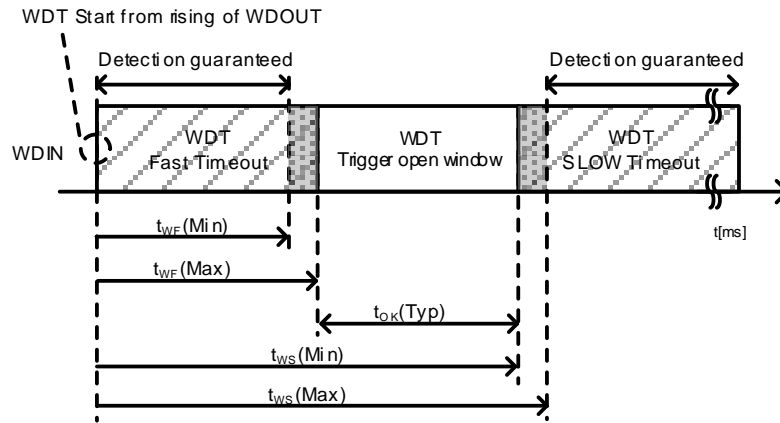
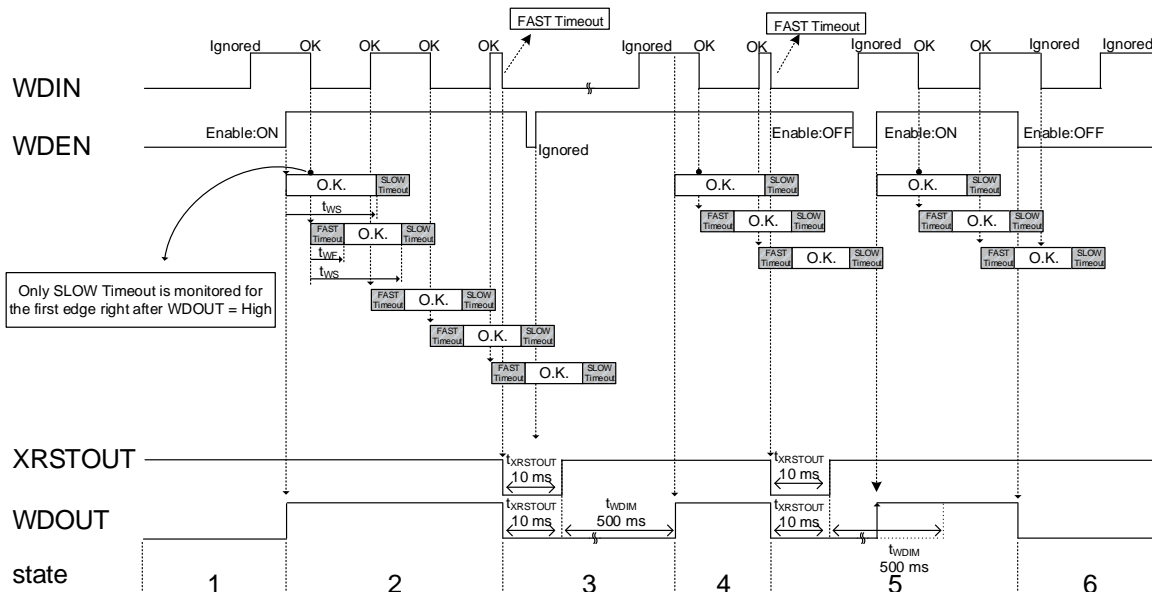
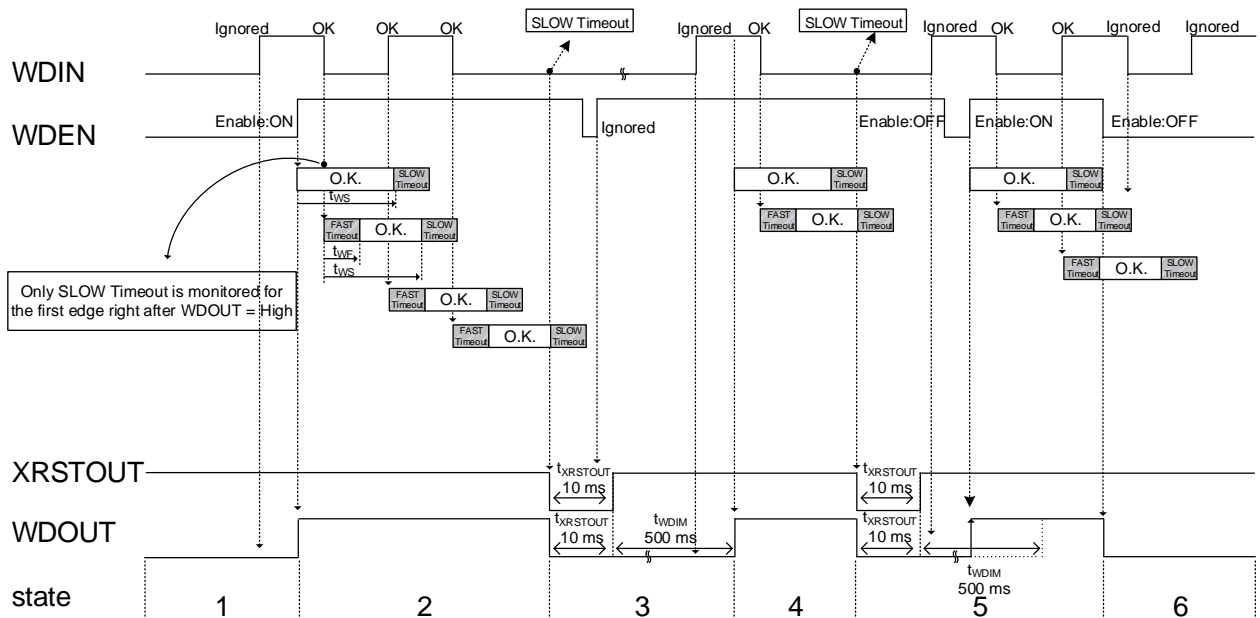

Figure 1. WDT Window Description
Figure 2. WDT FAST Timeout Detection
Figure 3. WDT SLOW Timeout Detection
As long as the duty of WDIN clock is kept within "Trigger open window" in Figure 1, WDT does not detect any errors and XRSTOUT stays at High. Sequence for FAST Timeout and SLOW Timeout are shown in Figure 2 and Figure 3.
3. These time detection monitors the time until next edge and when it detects WDIN edge within FAST Timeout (t_{WF}), XRSTOUT and WDOUT becomes Low. XRSTOUT goes back to High after 10 ms (Typ) delay, while WDOUT goes back to High after t_{WDIM} (500 ms: Typ) in addition to $t_{XRSTOUT}$ (10 ms: Typ) as long as WDEN = High. t_{WDIM} is implemented as a time for microprocessor to be reset normally and stabilized. If this time is unnecessary and WDT should be activated as soon as possible, WDEN may be controlled like state 5 in the Figure 2.
5. When WDOUT becomes High, WDT is activated again and operation resumes. Only SLOW Timeout detection works until the next first edge, and both SLOW Timeout and FAST Timeout starts at the first edge like state 1 in Figure 2.
6. If this time is unnecessary and WDT should be activated as soon as possible, WDEN may be controlled like in Figure 2. t_{WDIM} is canceled by toggling WDEN like High->Low->High and WDT is activated immediately even during t_{WDIM} . After WDT is enabled it works as same as state 2 in Figure 2.
If this time is unnecessary and WDT should be activated as soon as possible, WDEN may be controlled like state 5 in the Figure 3.
Only SLOW Timeout detection works until the next first edge, and both SLOW Timeout and FAST Timeout starts at the first edge like state 1 in Figure 3.
5. If this time is unnecessary and WDT should be activated as soon as possible, WDEN may be controlled like the Figure 3. t_{WDIM} is canceled by toggling WDEN like High->Low->High and WDT is activated immediately even during t_{WDIM} .
After WDT is enabled it works as same as state 2 in Figure 3.